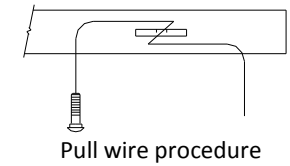
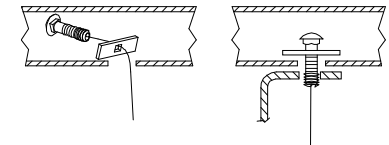

Figure 2
Figure 3
- Support and lower exhaust:** Lower the exhaust by removing (4) rubber hangers, and support the exhaust to prevent it from falling under its own weight. Spraying a lubricant or soapy water on the metal hanger rod and the rubber isolator helps removal.
- Install fasteners:** Feed the coiled end of the pull wire ⑤ through the bolt forward attachment hole in the frame and out the access hole. Attach feed spacer ② onto the pull wire ⑤ and thread the carriage bolt ① onto the pull wire ⑤. Pull the pull wire ⑤ with fasteners into location through the hole. Leave pull wire ⑤ attached. Repeat the same process on the both frame rails. See figure 2. Using the reverse pull wire procedure thread carriage bolt ① onto the pull wire ⑤ and feed it into the access hole on the frame rail then feed the spacer ② onto the pull wire ⑤ and feed it into the access hole and pull the carriage bolt ① into position through the spacer. Leave the pull wire ⑤ attached. See figure 3.
- Install hitch:** Raise the hitch above exhaust, feed pull wires ⑤ through the attachment points on hitch brackets. (Gently pull fascia rearward as needed to gain access between the fascia and exhaust hanger.)
- Install fastener:** Feed conical washer ③ over pull wire ⑤, using the washer to hold the bolt in place remove the pull wires ⑤ and attach the hex nut ④. Hand tighten both sides.
3. Install fasteners: Feed the coiled end of the pull wire ⑤ through the bolt forward attachment hole in the frame and out the access hole. Attach feed spacer ② onto the pull wire ⑤ and thread the carriage bolt ① onto the pull wire ⑤. Pull the pull wire ⑤ with fasteners into location through the hole. Leave pull wire ⑤ attached. Repeat the same process on the both frame rails. See figure 2. Using the reverse pull wire procedure thread carriage bolt ① onto the pull wire ⑤ and feed it into the access hole on the frame rail then feed the spacer ② onto the pull wire ⑤ and feed it into the access hole and pull the carriage bolt ① into position through the spacer. Leave the pull wire ⑤ attached. See figure 3.
4. Install hitch: Raise the hitch above exhaust, feed pull wires ⑤ through the attachment points on hitch brackets. (Gently pull fascia rearward as needed to gain access between the fascia and exhaust hanger.)
5. Install fastener: Feed conical washer ③ over pull wire ⑤, using the washer to hold the bolt in place remove the pull wires ⑤ and attach the hex nut ④. Hand tighten both sides.